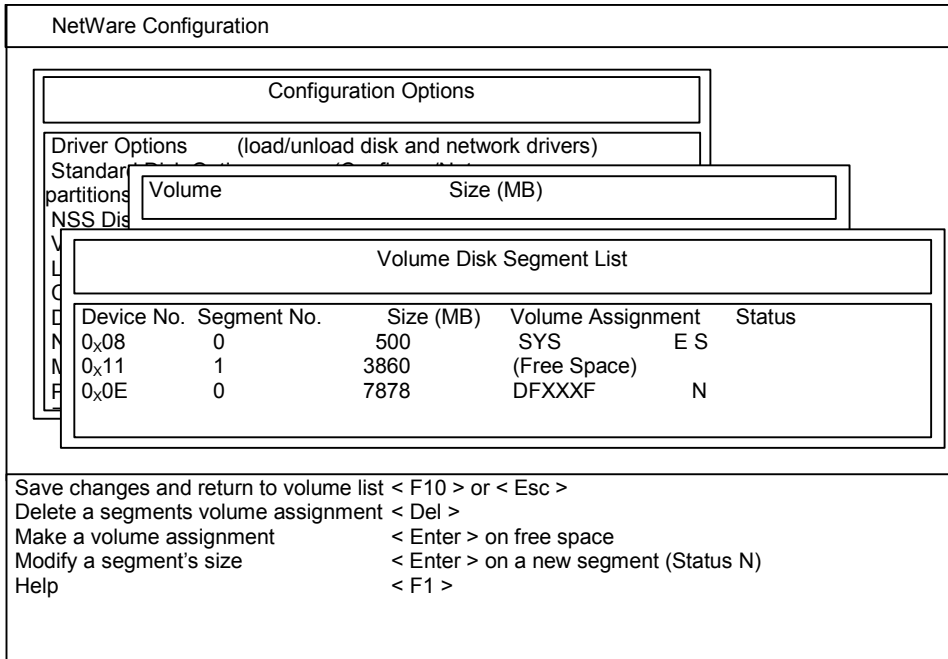

Figure 3.12 Saving the Disk Segment Parameters
7. Press **F10** to save the new volume information and return to the Volume Disk Segment List screen (see Figure 3.12).